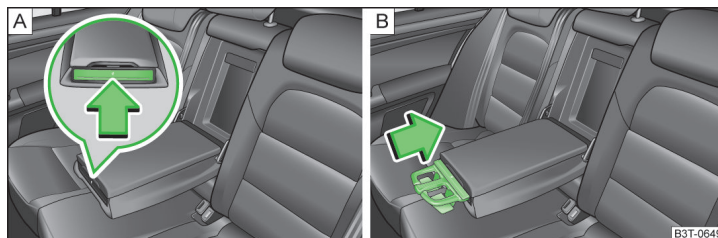

Fig. 83 Rear armrest: Remove cup holder/insert cup holder
- Press on the front end of the armrest in the direction of the arrow » Fig. 83 - **A**, the cup holder comes out.
- To slide the cup holder in again, press the middle part of the cup holder » Fig. 83 - **B** and slide it into the armrest in the direction of the arrow.